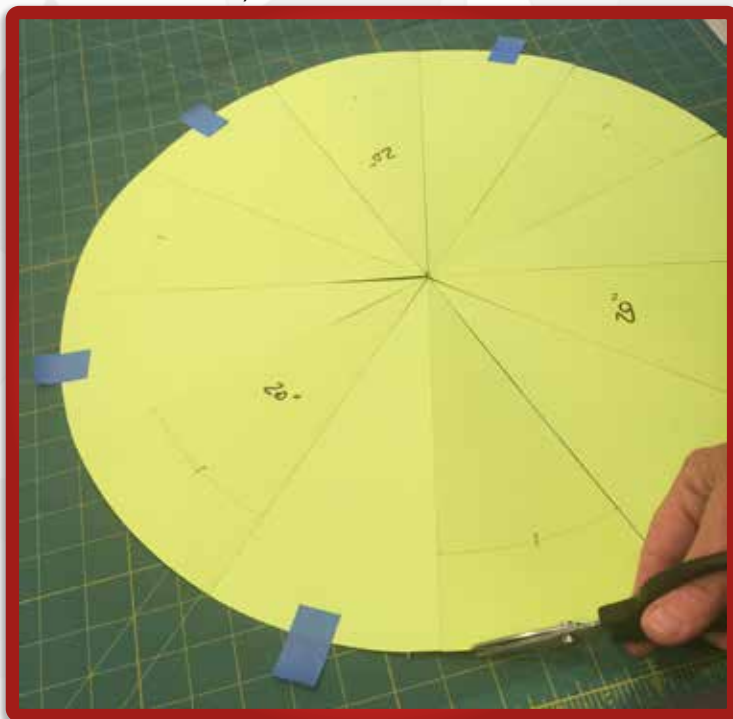

FIGURE 3. CUT OUT A DISK OF THE MESH MATERIAL USING THE CIRCULAR TEMPLATE.
d) Use scissors (or razor blade) to cut out a disk of mesh fabric. See Figure 3.